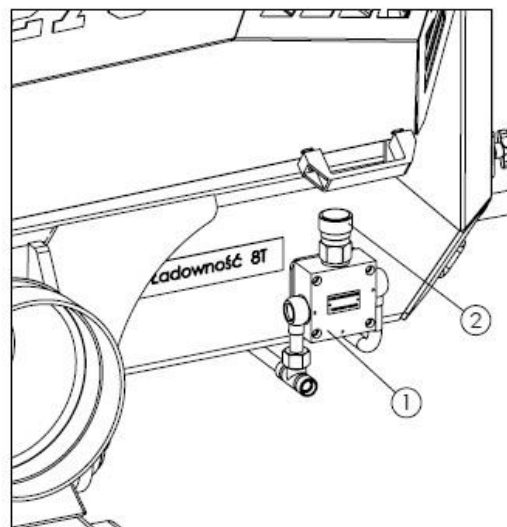

Fig. 24. Adjusting the feeding speed of the floor conveyor
Select the feeding speed of the floor conveyor by trial and adjust it with a knob (2) on the flow controller (1) located on the front beam of the load body – see Figure 24.